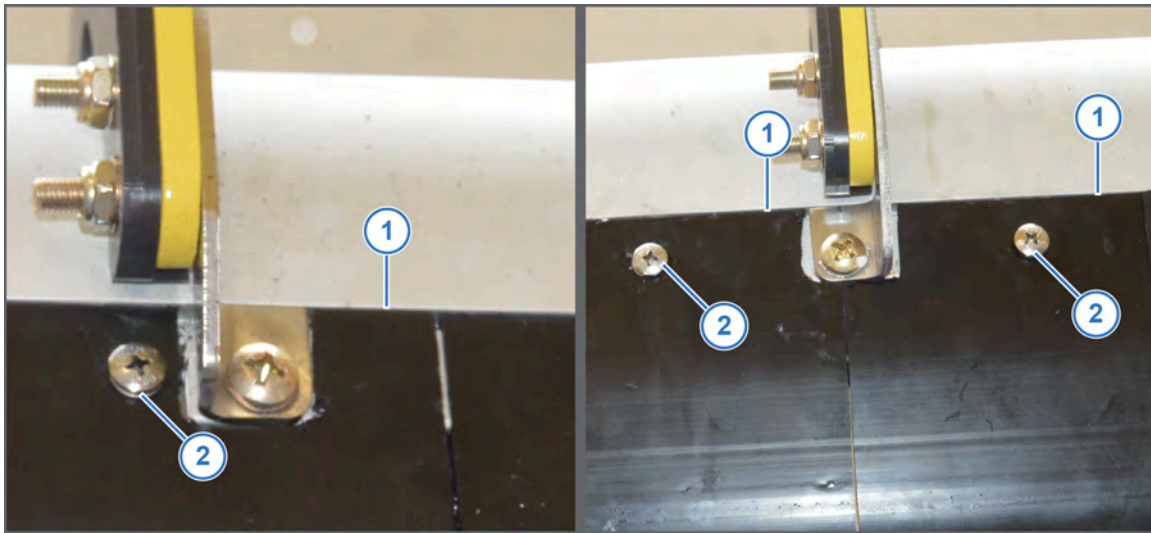

Figure 16: Install the Shells
- 33.** Cut the shells (Figure 16, Item 1) to fit around the boom hanger tab assembly.
- 34.** Install the shells and tighten the quarter-turn fasteners (Figure 16, Item 2)